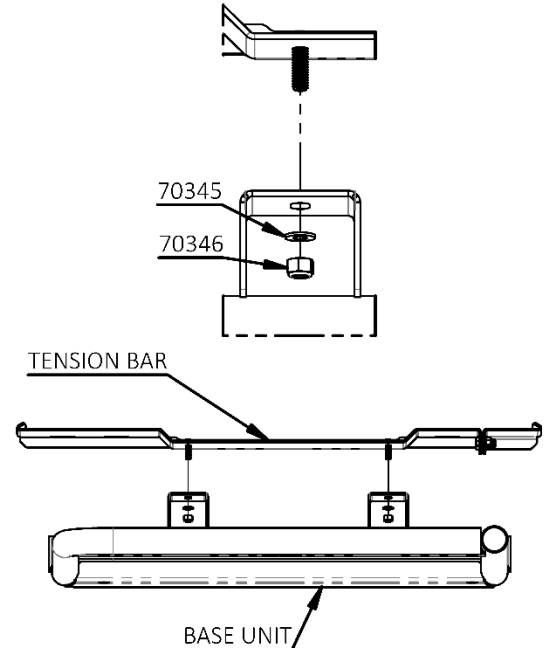

Figure 8: Base Unit and Tension Bar Hardware
15. Loosely bolt the base unit to the tension bar using two 5/16" washers (70345) and two 5/16" nylock nuts (70346) as seen in Figure 8.